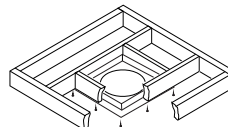

Figure 23 - Installing Firestop
1. Cut a 10 3/4" square hole in the ceiling using the locating hole as a center point. The opening should be framed to 10 3/4"x10 3/4" inside dimensions, as shown in Figure 18 on page 13 using framing lumber the same size as the ceiling joists. If the area above the ceiling is an insulated ceiling or an attic space, nail firestop from the top side. This prevents loose insulation from falling into the required clearance space. If the area above the ceiling is a living space, install firestop below the framed hole. The firestop should be installed with no less than three nails per side (see Figure 23).